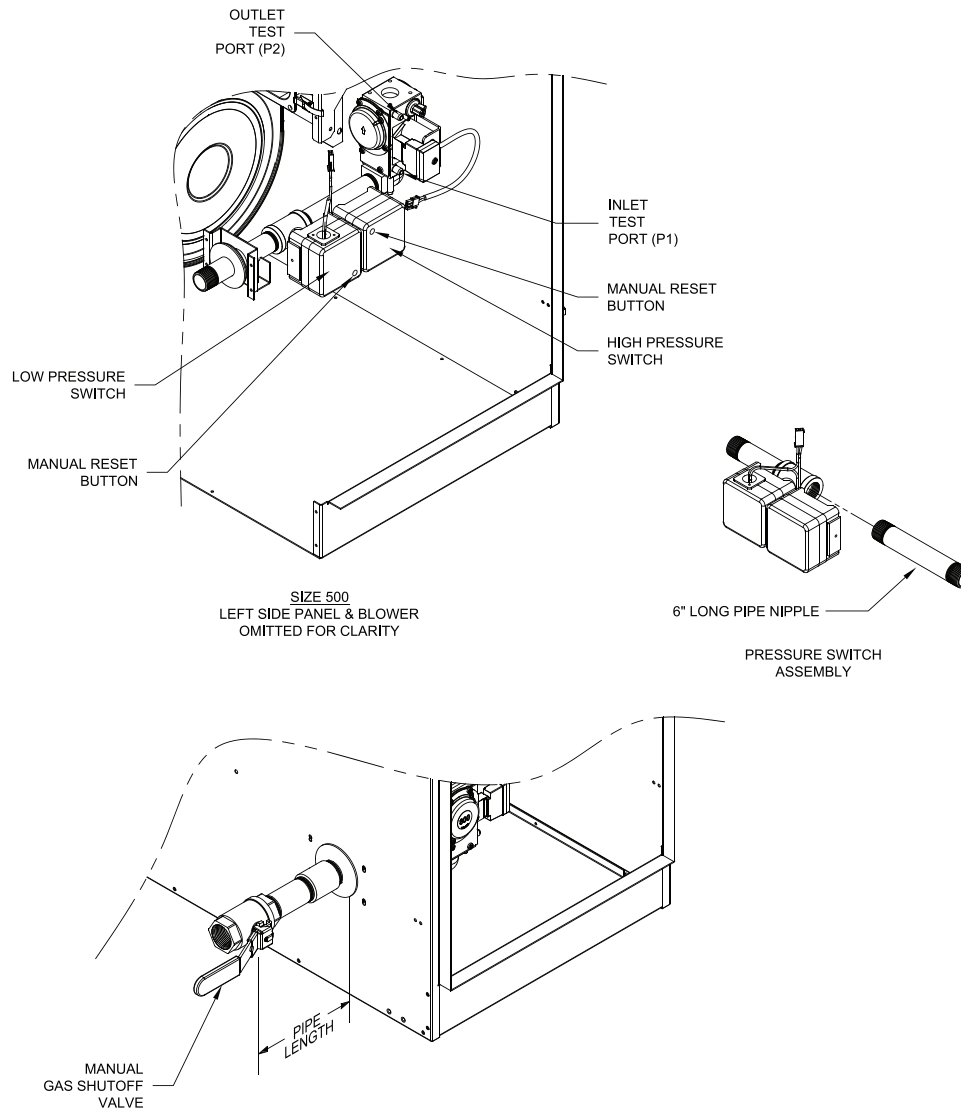

Figure 25: Gas Inlet Pressure Tap and Pressure Switch Location
3. The **gas pressure can be measured** at the gas valve inlet pressure port. Refer to Figure 25 “Gas Inlet Pressure Tap and Pressure Switch Location”.